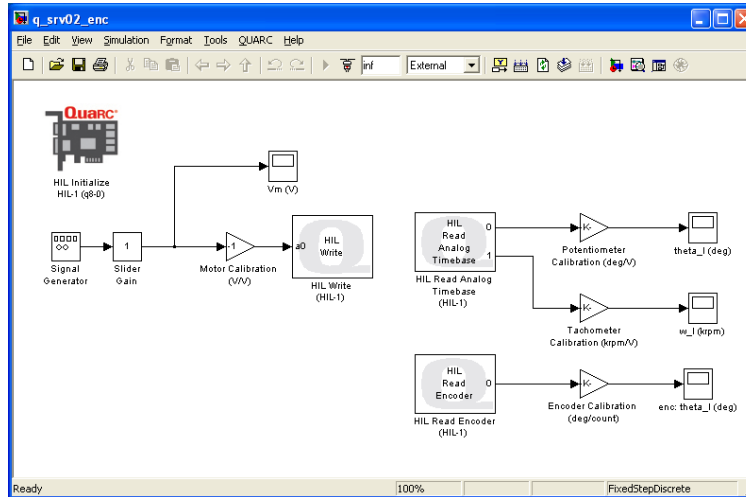

Figure A.15: **Simulink**[®] model used with QUARC to send voltage to SRV02 and reads the potentiometer, tachometer, and encoder sensors.
The **Simulink**[®] diagram designed previously is modified to include an encoder measurement, as illustrated in Figure A.15 below.
4. Connect the scope and gain blocks as depicted in Figure A.15.
6. Open the *Vm (V)* and *enc: theta_I (deg)* scopes.